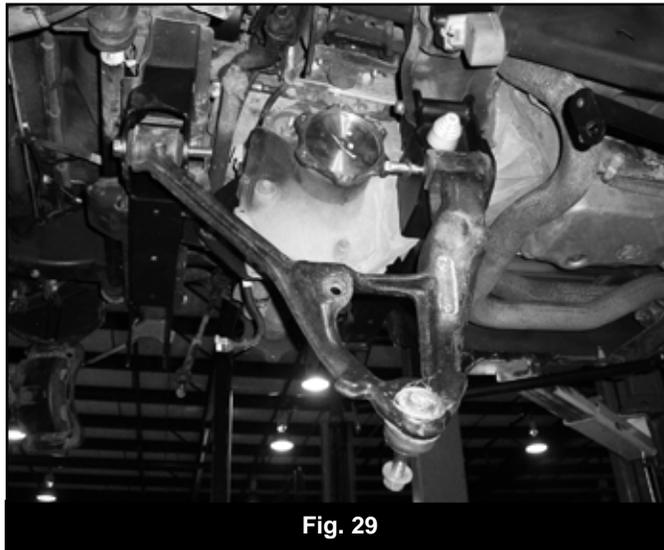

Fig. 29
50. Install the factory lower control arms into the new crossmembers. Fasten the control arms with 5/8" x 5" bolts (front), 5/8" x 6" bolts (rear), nuts and 5/8" SAE washers (BP 539). Run the bolts from the front to rear (Fig 29). Leave hardware loose.